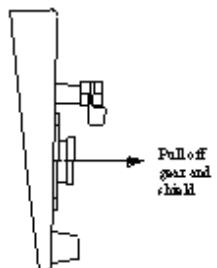

Fig. 5
6. The shield and the gear can now be removed. (Fig.5)